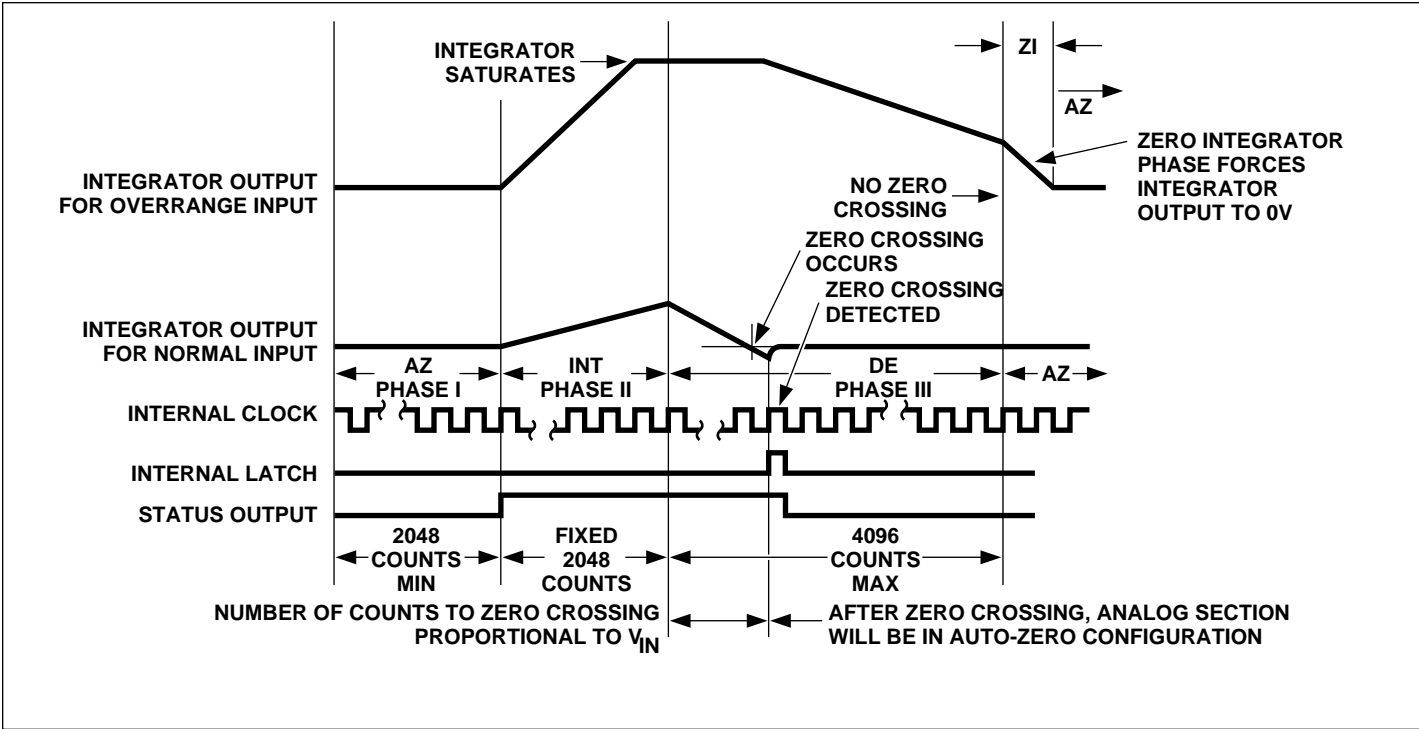

Figure 3. Conversion Timing (RUN/HOLD Pin High)
The functional diagram shows a block diagram of the analog section of the TC7109A. The circuit will perform conversions at a rate determined by the clock frequency (8192 clock periods per cycle), when the RUN/HOLD input is left open or connected to  $V^+$ . Each measurement cycle is divided into four phases, as shown in Figure 3. They are: (1) Auto-Zero (AZ), (2) Signal Integrate (INT), (3) Reference Deintegrate (DE), and (4) Zero Integrator (ZI).
During ZI, the reference capacitor is charged to the reference voltage. The signal inputs are disconnected from the buffer and integrator. The comparator output is connected to the buffer input, causing the integrator output to be driven rapidly to 0V (Figure 3). The ZI phase only occurs following an overrange and lasts for a maximum of 1024 clock periods.
During a conversion cycle, the STATUS output goes HIGH at the beginning of signal integrate and goes LOW one-half clock period after new data from the conversion has been stored in the output latches (see Figure 3). The signal may be used as a "data valid" flag to drive interrupts, or for monitoring the status of the converter. (Data will not change while status is LOW.)
With the RUN/HOLD input high, or open, the circuit operates normally as a dual-slope ADC, as shown in Figure 3. Conversion cycles operate continuously with the output latches updated after zero crossing in the deintegrate mode. An internal pull-up resistor is provided to ensure a HIGH level with an open input.